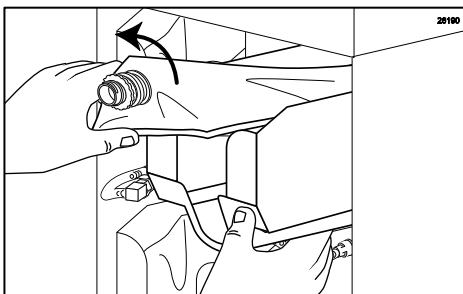

Figure 103
2. Remove each syrup bag from its tray and store as directed on the label. (See Figure 103.)